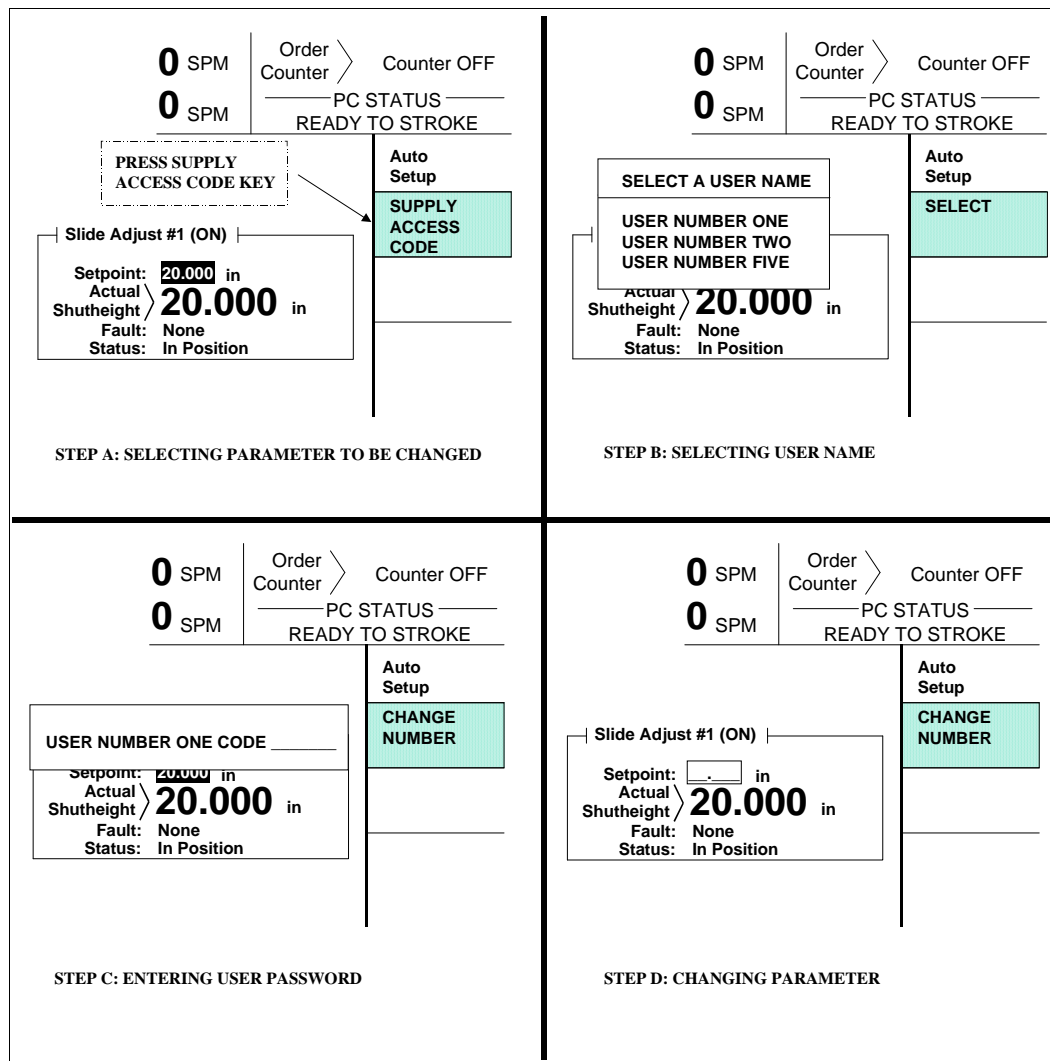

Figure 2.2: Example Password Entry Sequence
Figure 2.2 displays a typical password entry sequence. This example shows the steps necessary to change a slide adjust setpoint. This is typical for password entry for all restricted items.
- Step A: Select the restricted item. In the example shown in Figure 2.2 the restricted item is Slide Adjust #1 setpoint. Once the parameter is selected then Softkey # 1, the upper vertical softkey (Softkey # 1 is highlighted in Figure 2.2) , will display the legend “SELECT”.
- Step B: A list of users that have access to this restricted item will appear. In the example shown in Figure 2.2 only User Number One, User Number Two, and User Number Five have access to this restricted parameter. The system may have several more users, but the three users listed on the screen are the only users that have access to change an Auto Setup Setting . The user must use the arrow keys to position the cursor on his user name. After placing the cursor on the correct name, the user must press the SELECT softkey. The SELECT softkey must be pressed even if there is only one user name displayed.
- Step D: Upon entry of the correct password, the user will be allowed access to the restricted item. In the example shown in Figure 2.2, the user will have access to change the Slide Adjust #1 setpoint.